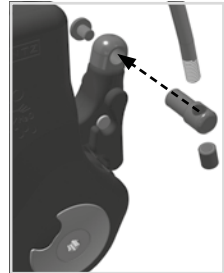

fig. 7
- 2 Place the pulling cable holder (4) into the bore of the retainer for pulling cable holder (fig. 7).
- 3 Secure the pulling cable holder with the pan head screw (1). Secure the pan head screw with LOCTITE® 243 medium strength.
- 4 Secure the threaded sleeve (5) on the pulling cable (3).